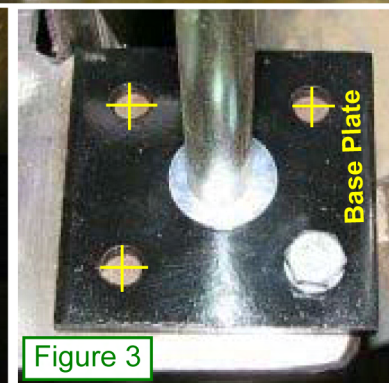

Figure 3
3. Position the two base plates on the table extensions as shown in Fig. 3 with edges of base plate flush with rear and inside edges of table extensions. Mark hole positions on table exactly. Remove the **13385** from sander table.
5. Replace the **13385** assembly on table, install a 1/4"-20 bolt with lock washer in each of the two holes prepared in step 4. Recheck base plate locations. (Fig. 3) Mark, drill, and tap 6 additional holes in sander table. Install remaining 6 bolts and lock washers.